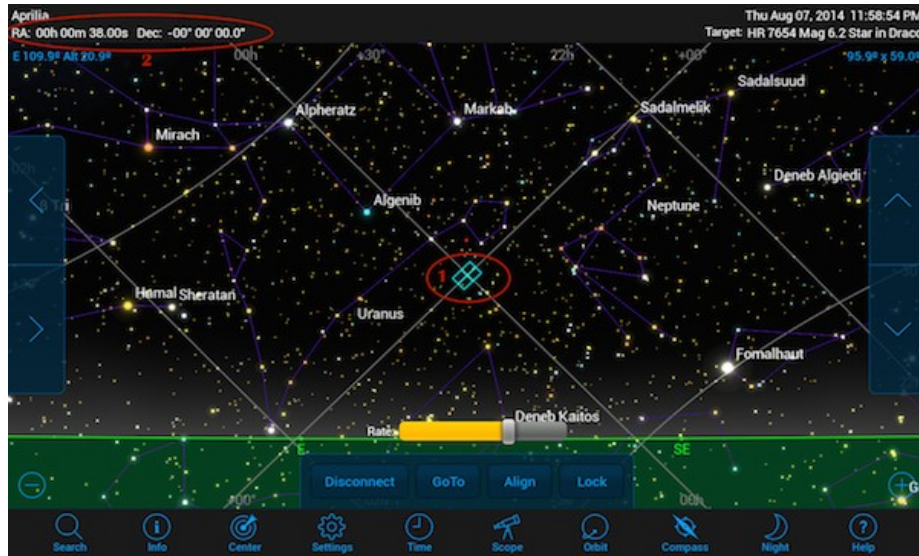
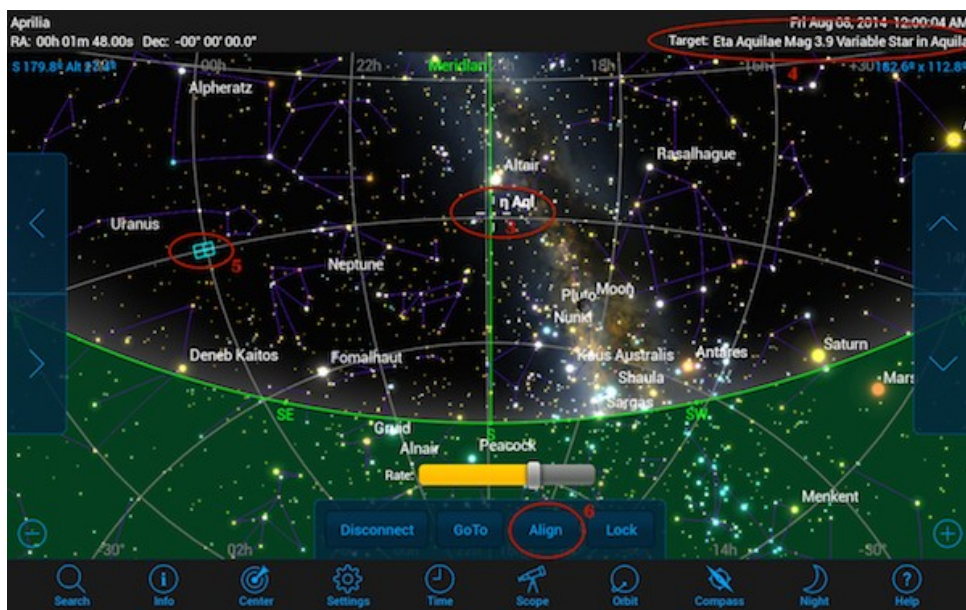
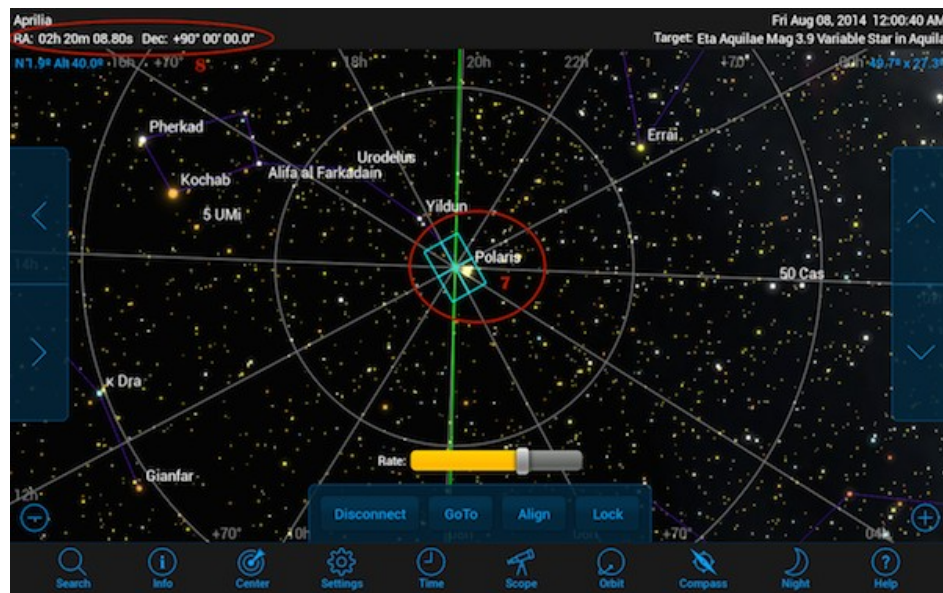

Figure 4.4c. SkySafari connected
Figure 4.4d. Sync on southern horizon
Figure 4.4e: System aligned
- b. **Alt-Az mode:** operation the telescope only needs to be pointing toward the North Celestial Pole, but the mount should be accurately levelled (see figure on the right below). Connect the power supply to the StarGO control unit then connect the mount to the device by pressing the "Connect" button at the bottom of the planetarium application screen as shown in Figure 4.4c.
2. After few seconds the “Connect” button will change to read “Disconnect”. A chime will sound and the telescope FOV pointer position (CCD or eyepiece) on the SkySafari screen will appear exactly at coordinates RA=0, DEC=0 if the mount is in Equatorial mode or with the coordinates of the North Pole if the mount is in Alt-Az mode. The commands to the right of “Disconnect”, i.e. “GoTo”, “Align” and “Lock” will become active Figure 4.4c.
The following sequence of three SkySafari screenshots, taken with the mount in equatorial mode, is useful to understand the event sequence and its results: They were taken a) just after the connection has occurred (Figure 4.4c), b) at the moment of syncing to a near South Meridian star (Figure 4.4d) and c) after the “Align” function is carried out (North Celestial Pole area, Figure 4.4e).
The second phase in this sequence is the choice of any star very near to the Meridian and to the Southern horizon. In this case the star is η Aql (see ovals 3 and 4 of figure 4.4d). Note that the telescope is still in the initial position (oval 5). Again it is possible to see a small difference in RA from the point 0,0 due to the